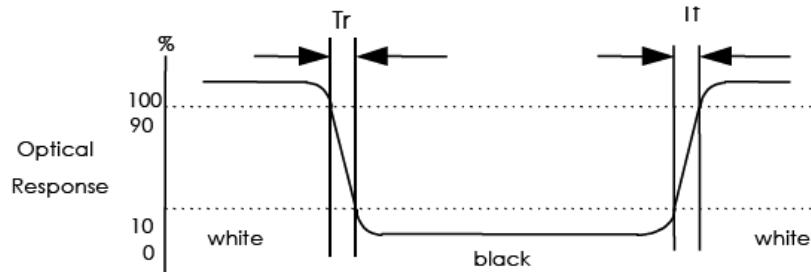

FIG. 2 Measuring method for Contrast ratio, surface luminance, Luminance uniformity, CIE (x, y) chromaticity
Note 1. Contrast Ratio(CR) is defined mathematically as For more information see FIG 2.
Note 2. Surface luminance is the LCD surface from the surface with all pixels displaying white. For more information see FIG 2.
Note 3. The uniformity in surface luminance , WHITE is determined by measuring luminance at each test position 1 through 5, and then dividing the maximum luminance of 5 points luminance by minimum luminance of 5 points luminance. For more information see FIG 2.